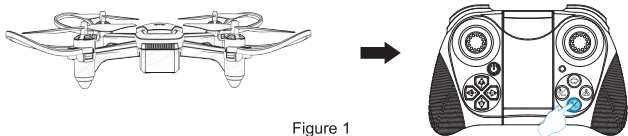
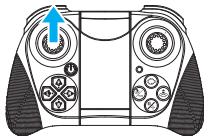
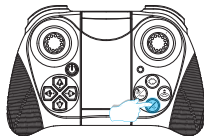

Figure 1
Figure 2
Figure 3
4.1 Press the upper and lower ends of the battery with your fingers according to Figure 1, then slide the battery down according to Figure 2, and then remove the battery.
Press and hold the calibration button on the remote control , the LED light on the aircraft flashes quickly. The LED lights on the aircraft are always on, which means the calibration is complete, and the remote controller emits a "beep" (Figure 1).
Push the left control lever on the remote control upward (Figure 2). At this time, the aircraft can take off normally. After taking off, all the indicator lights of the aircraft will always be on. During the flight, whether you short press the  key, the aircraft will stop flying (Figure 3).